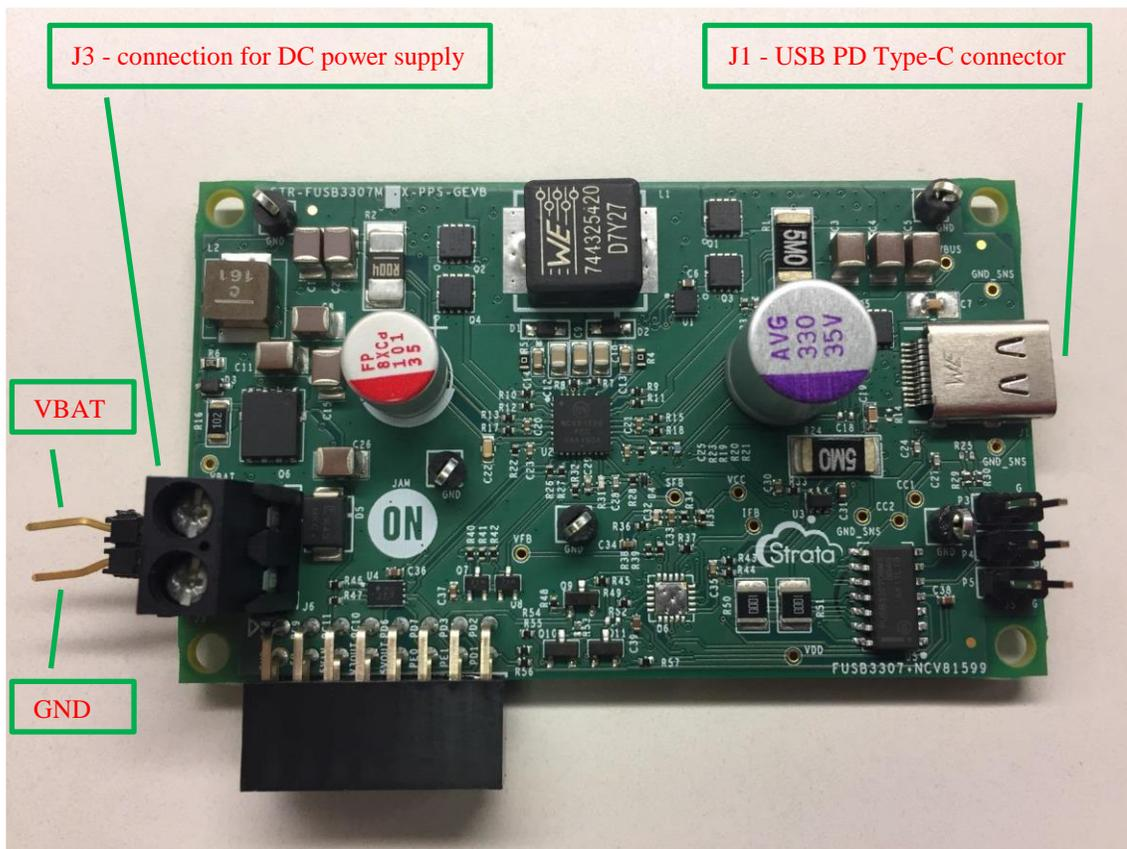

Figure 5 - FUSB3307 EVB
4. Connect the 21V DC power supply to the VBAT and GND terminals of the FUSB3307 EVB. The FUSB3307 EVB is shown in Figure 5.